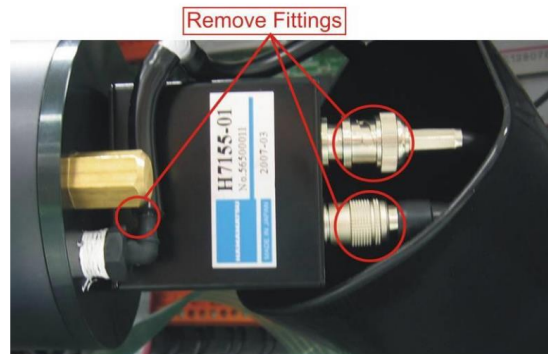

Figure 43 – Removal of cell fittings
9. Remove the large black tube off the optical chamber exhaust port (2).
14. In the manual this step states: “Disconnect the coaxial cable by rotating it anti-clockwise and pull.” However, there appear to be different flavors of PMT. If the PMT does have these cables follow Fig. 43 in the manual: